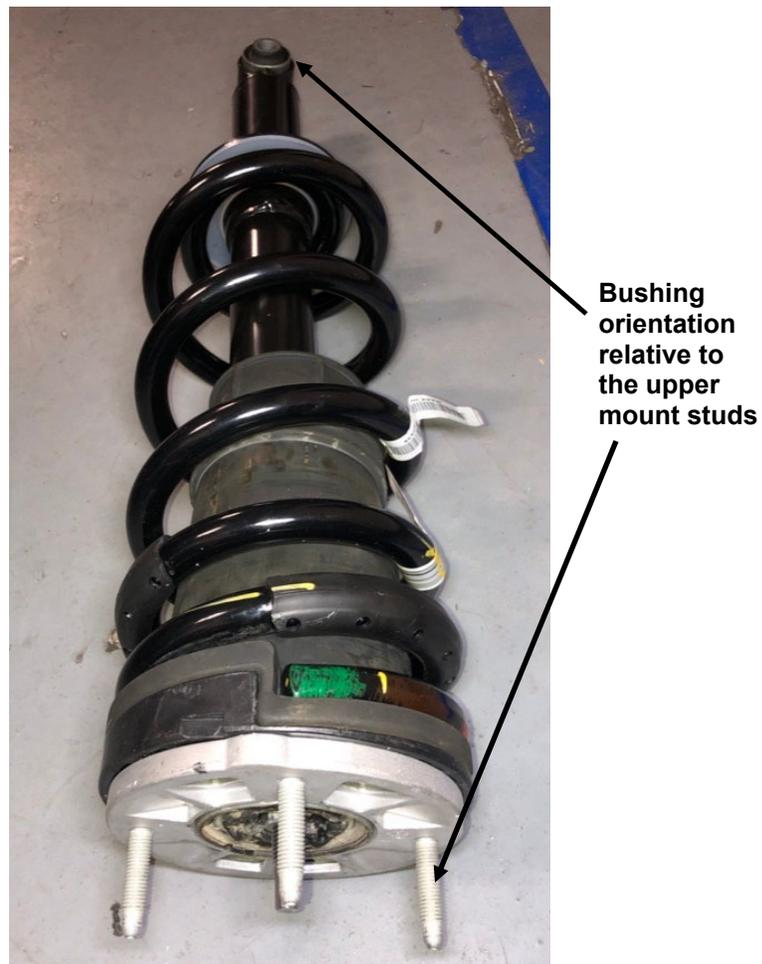

Figure 1: OEM T Bar/spring clocking
- B. Note the clocking of the lower T bar mount relative to the studs on the upper mount as shown in Figure 1 (important for reassembly).
- H. Using an appropriate spring compressor, compress the OEM spring and assemble it with the new Bilstein shock. Ensure that the OEM coil spring is installed in the direction shown only. Refer to Figure 1.
- K. Rotate the shock so the lower bushing is aligned with the upper mount studs as noted in step B and shown in Figure 1.